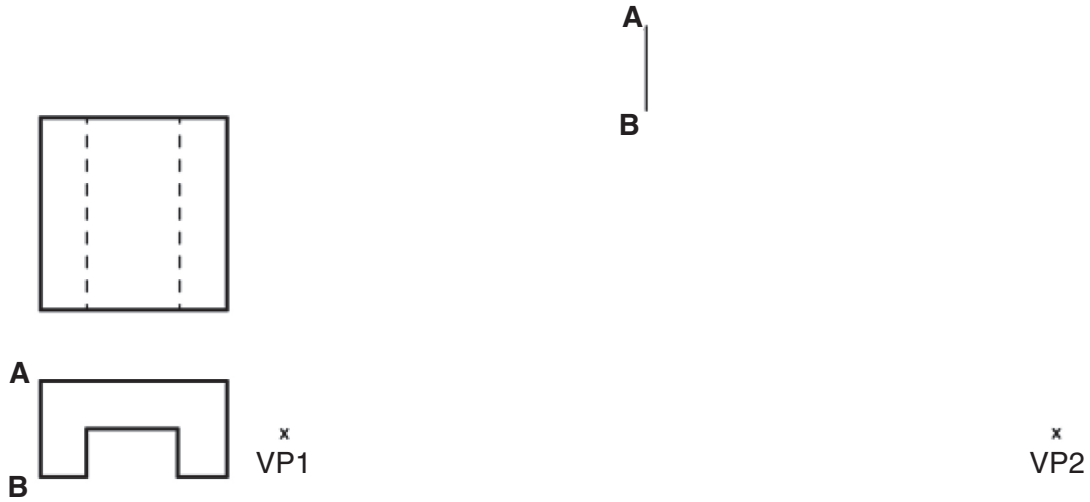

Fig. 1
- 2 Fig. 1 shows two orthographic views of a block.